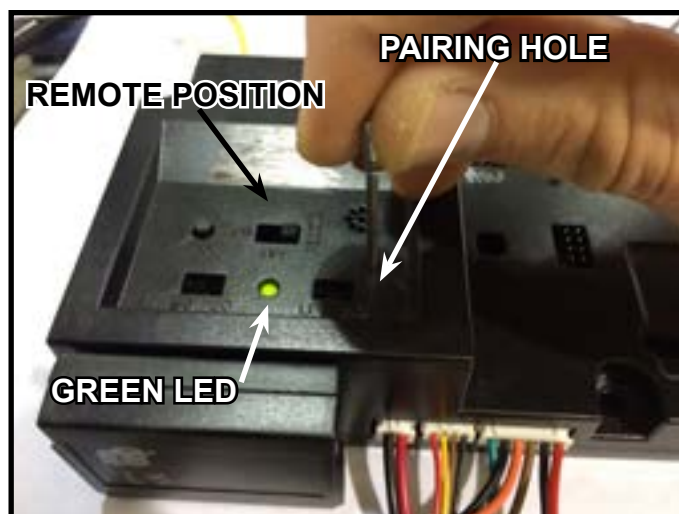

Figure 4. Pairing IFT-ECM and IFT-RC150
3. Locate the pairing hole on the IFT-ECM. See Figure 4. Using a paper clip or similar item, press and release the pairing button. The IFT-ECM will "beep" once and a green LED will blink for 14 seconds.